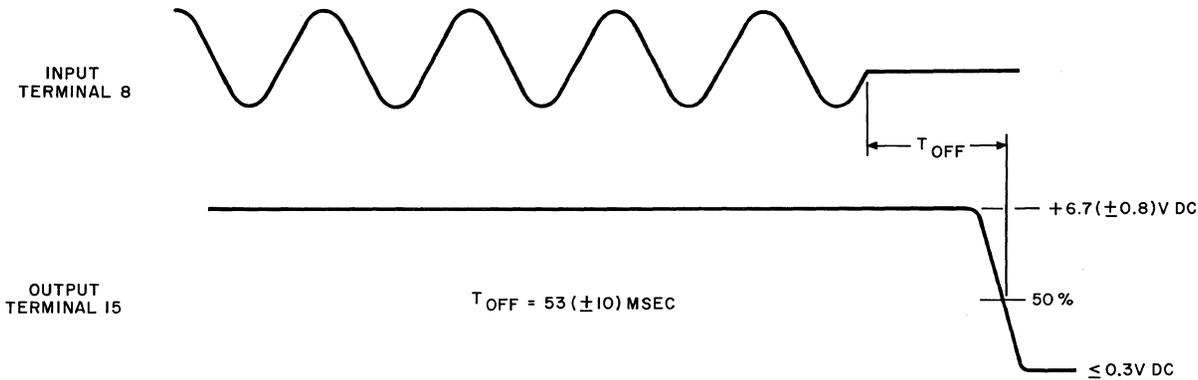

Fig. 20 — Automatic Gain Control 1 Test
(5) Set the scope EXT SYNC TRIGGER selector to the negative (−) position. The input and output waveforms shall be as specified in Fig. 20.